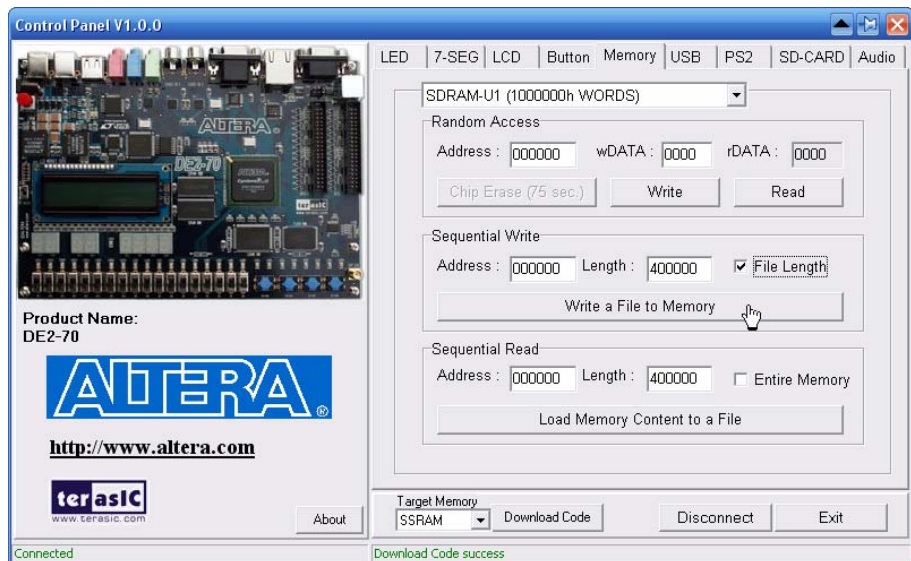

Figure 2.3. Load picture into the flash.
7. Click on the "File Length" checkbox to indicate that you want to load the entire file as shown in Figure 2.3